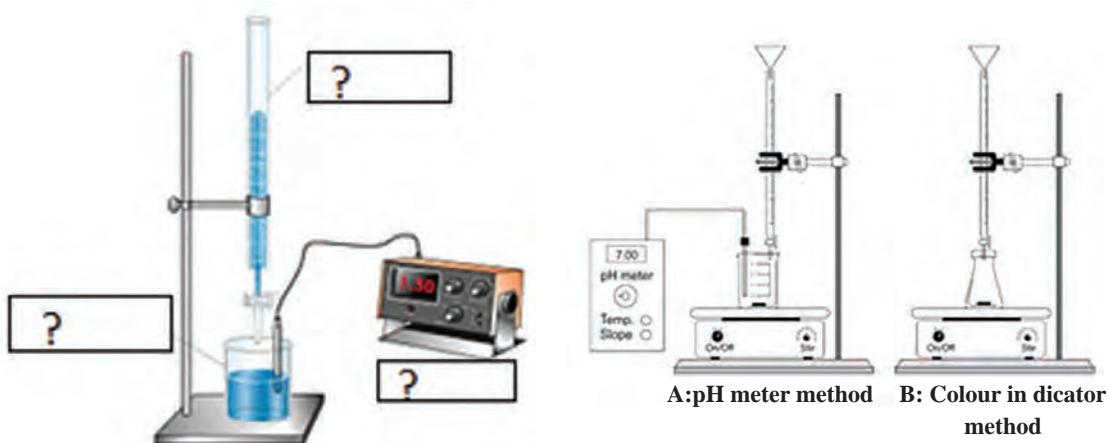

Fig. 24: Metallic, plastic and rubber tools - examples
Laboratory plastic and rubber tools are made of various material such as polyethylene (PE), polypropylene (PP), polyvinyl chloride (PVC), teflon, polycarbonate (Fig. 24).